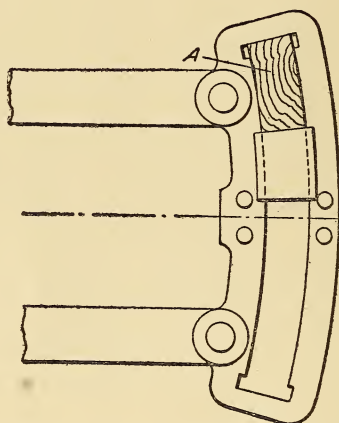

FIG. 15.—LINK BLOCKED AND HELD BY WOOD OVER LINK BLOCK.
*A.* The link hanger should be removed, and the link lifted as high as it is desired to cut off and blocked on the link block, as shown in Fig. 15. The wooden block *A*
First disconnect the link hangers and reach rod and remove the lifting shaft. Then fit a block into the link slots on top of the link blocks, as shown in Fig. 15, so that the valves will cut off at the proper point for hauling the train. In addition to this fit a block beneath the link block, as in